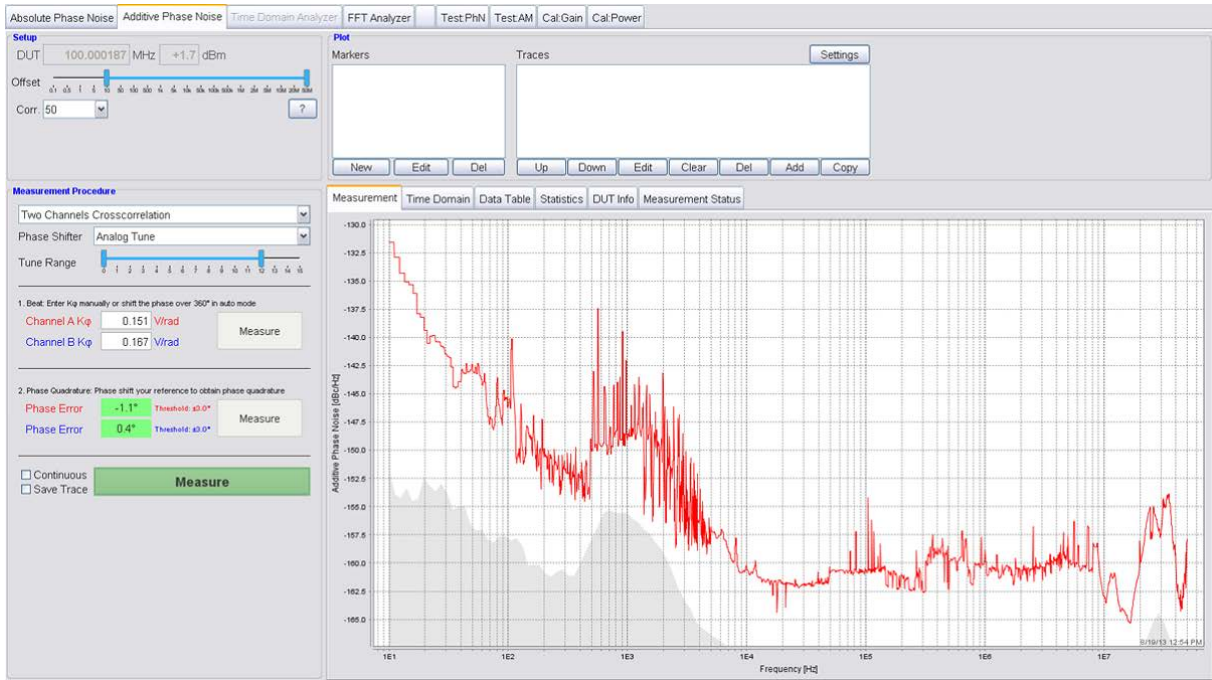

Figure 17 Additive phase noise measurement tab after the measurement completed.
3. Finally, the actual measurement can be started by pressing the green “Measure” button as shown in Figure 17. Measurement can be stopped and restarted without need of performing step 1 and 2 each time.